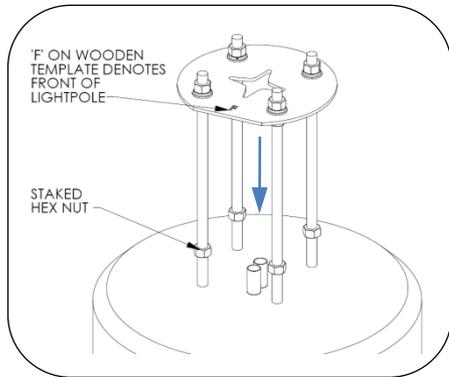

Fig.3 – Install anchors
2. Install staked anchor bolts, hex nuts, washers and wooden template as shown in Fig 3. Level template in all directions.